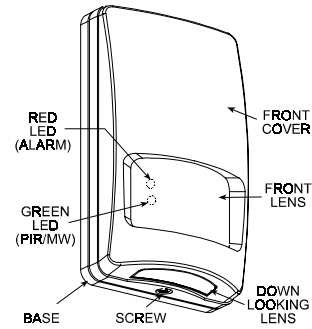

Figure 1. DUO 220 General View
- Loosen and remove the screw at the bottom of the case (Fig. 1) and then take the cover off.